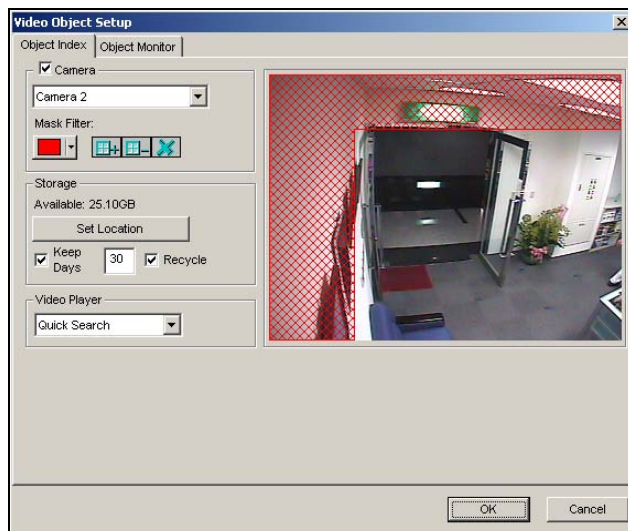

Figure 1-51 Video Object Setup for Object Index
3. Click the **Configure** button to display the Video Object Setup window (see *Object Index*, Figure 1-51.)